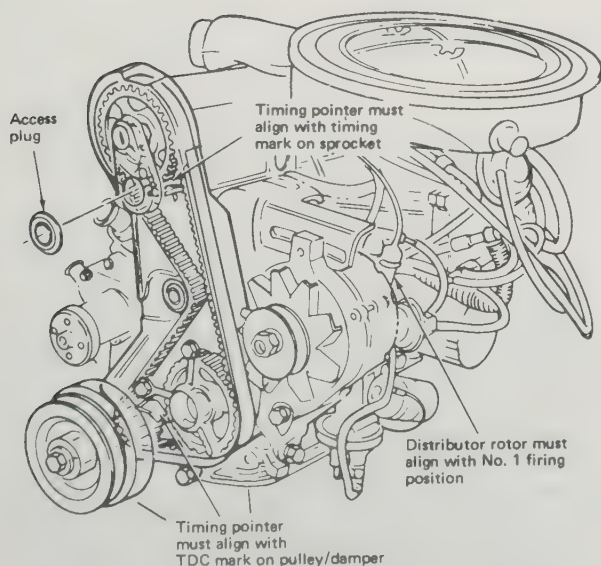

Fig. 1.30. Engine timing marks (Sec. 56)
- 3 Rotate the camshaft so that the sprocket retaining pin is in the position shown in Fig. 1.30, then position the head on the block. If the crankshaft needs to be rotated for any reason, ensure that the pistons are approximately halfway down the bores or they may contact the valves.